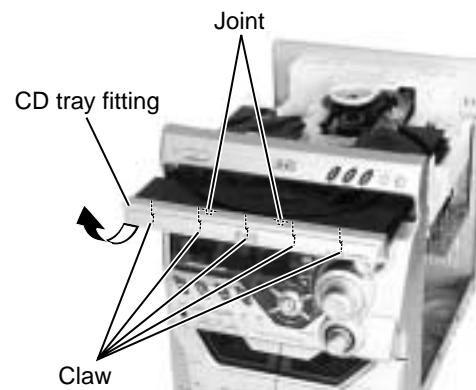

Fig.3
■ Removing the CD Tray fitting (See Fig. 3)